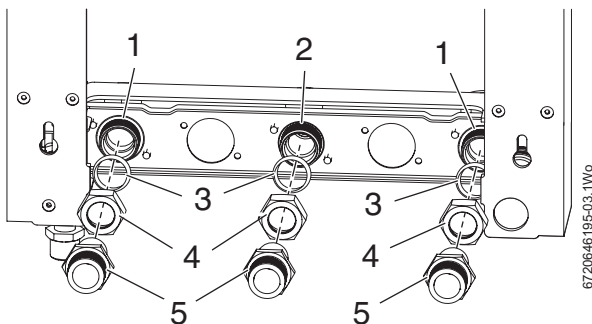

Fig. 25 Adapter fitting
- ▶ Refer to figure 25 and fit the nut and olive onto the adapter and mount onto the back of the isolators.